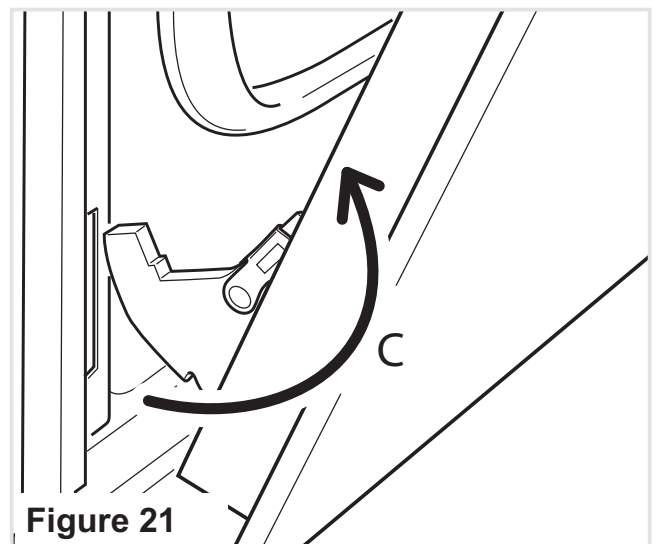

Figure 21
- Withdraw the hinge hooks from their location following arrow “C” (fig. 21).